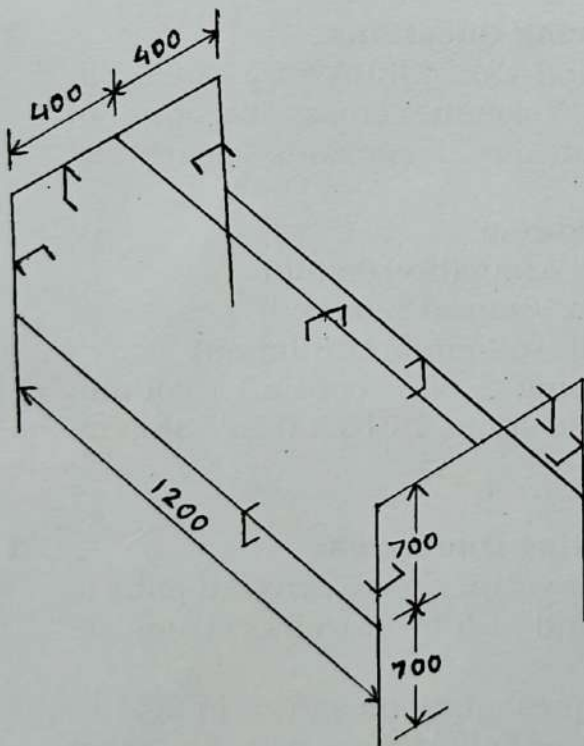

Fig 3, Q.5(a), (b)
- Draw the FV, TV and SV of the pictorial (single line) view of structure shown in fig.3. Use ISLC75@ 5.7Kg/m **(08)**
- Make bill of material for support structure shown in fig.3. **(04)**